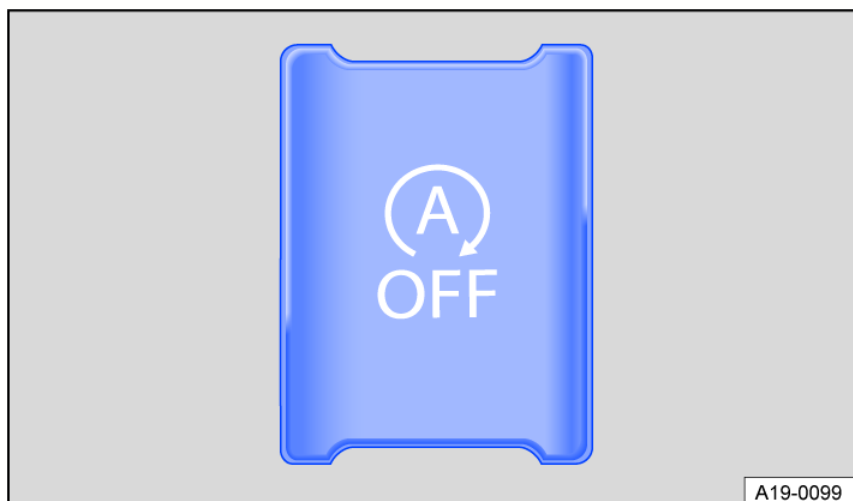

Fig. 114 In the lower section of the center console: Button for the start-stop system.
- Press the  button on the center console to manually deactivate the system. When the start-stop system is deactivated, the indicator light on the button comes on fig. 114.
- Press the  button on the center console again to manually activate the system again fig. 114.